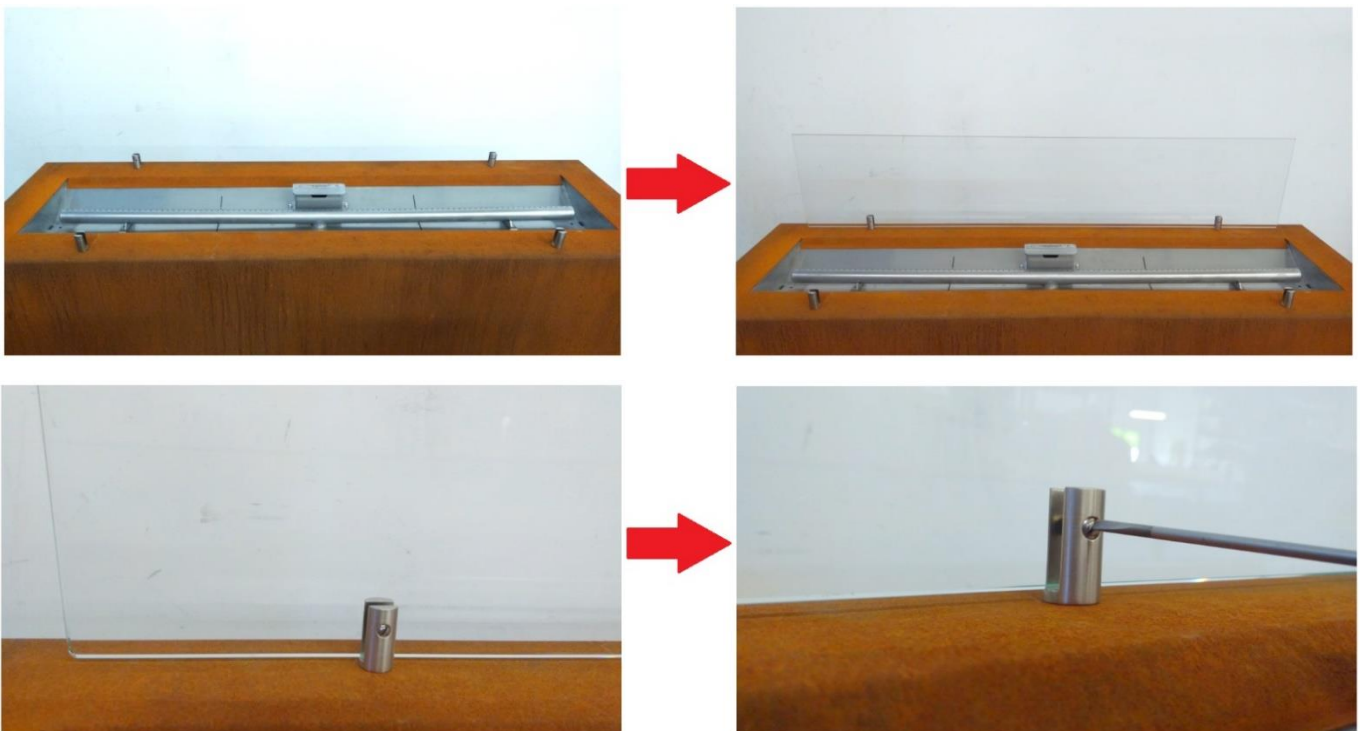

Figure 2
- Install glass shields in the corresponding slots on the appliance as shown on Figure 2.